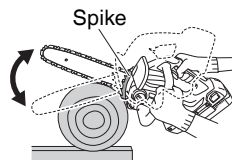

Fig. 22
- (3) When sawing a thick piece of wood, press the spike on the front section of the unit against the wood and cut it with a lever action while using the spike as a fulcrum as shown in Fig. 22.